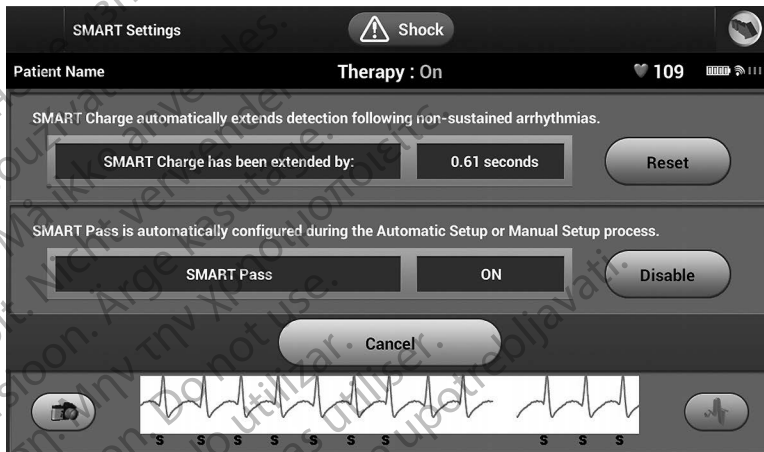

Figure 24: SMART Settings screen
1. From the Utilities screen (accessible from the Main Menu screen), select the SMART Settings button. The SMART Settings screen appears (Figure 24).